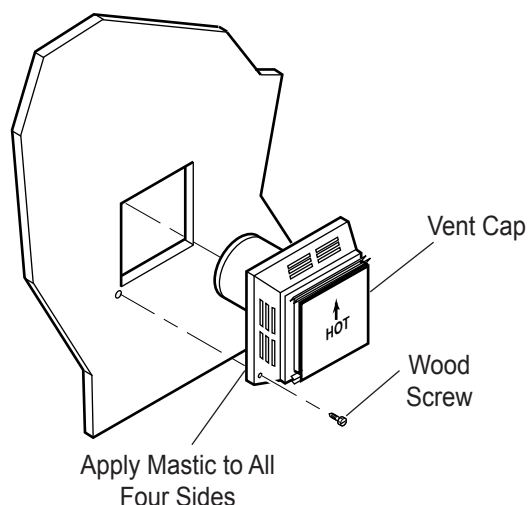

Figure 14 - Installing Horizontal Vent Cap
4. Apply a bead of non-hardening mastic around the outside edge of vent cap. Position the vent cap in the center of hole on the exterior wall with the word "UP" on the vent cap facing up. Insure proper clearance of 1" to combustibles is maintained. Attach the vent cap with four wood screws supplied. See Figure 14.